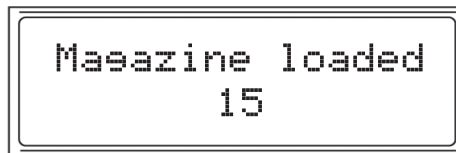
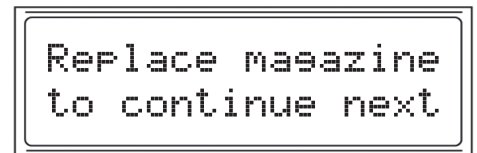

Fig. 12
Fig. 13
- When the loading is complete, the display confirms the number of rounds loaded (*Fig. 12*). After 3 seconds the screen will prompt the user to remove/replace the magazine (*Fig. 13*), then 3 seconds later it will again display the rounds loaded screen (*Fig. 12*). This cycle continues until the magazine is removed and the display returns to the home screen (*Fig. 5 or 9*). Remove the loaded magazine.